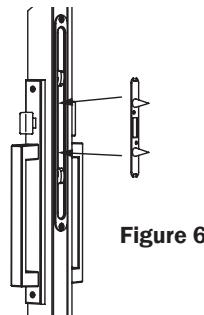
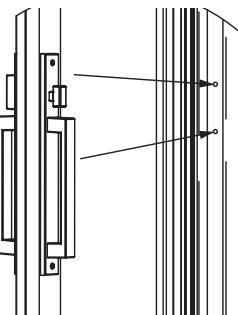

Figure 6
Figure 7
6. To locate the keeper position on the jamb, place black locator within the latch (Figure 6) and close the active panel strong enough to dimple the side jamb (Figure 7).